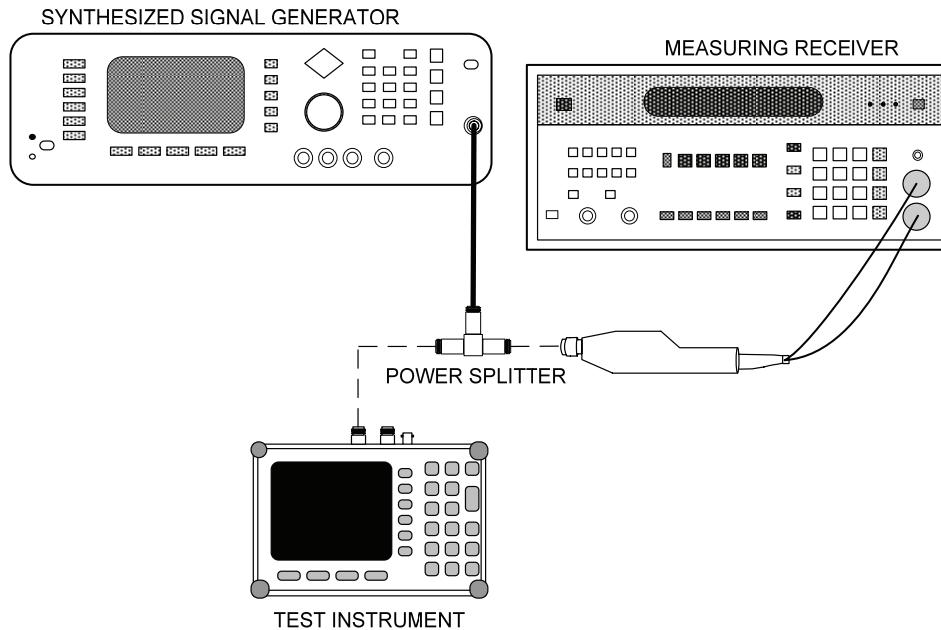

Figure 4. Measurement Accuracy – equipment setup.
- (1) Connect equipment as shown in figure 4.